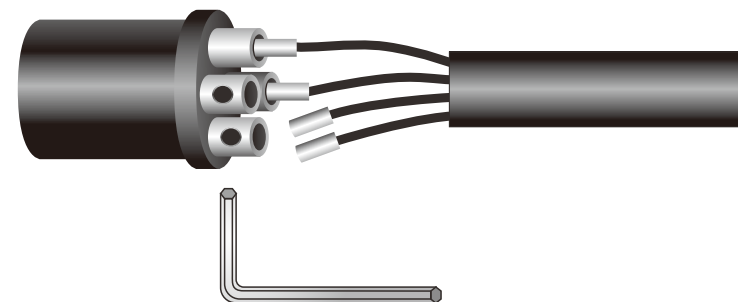

figure 9
3. Insert each wire with the brass fittings into the top of appropriate slot of the connector insert (B) as shown in Diagrams 9 and 10. Use a 1.5-mm Allen key to tighten the connection (Figure 9).